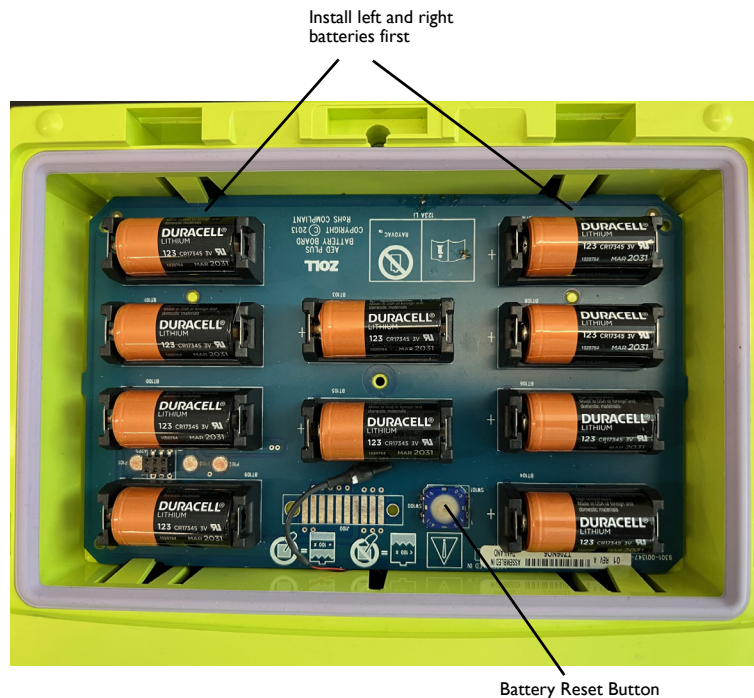

Figure 8: Battery Compartment
3. Insert the eight batteries on the left and right sides first, followed by the two batteries in the center, as shown in Figure 8 below. Observe battery polarity markings and make sure that all batteries are securely seated and properly oriented.
5. After installing new batteries, press the Battery Reset Button inside the battery compartment when prompted (see Figure 8). Pressing the button resets the battery usage indicator to full charge.